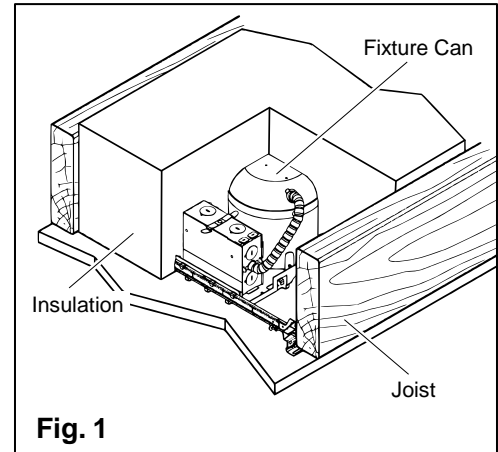

Fig. 1
**NOTE:** This fixture is an IC type fixture. It may come in direct contact with thermal insulation. It can be completely covered by thermal insulation, as shown below. In addition, any part of the fixture may come in direct contact with any combustible material, such as a ceiling joist or floor board. (FIG. 1)